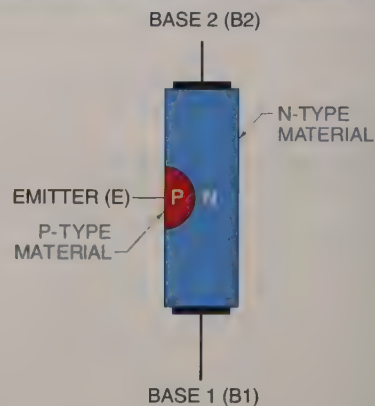

Figure 23-25. A unijunction transistor (UJT) consists of a bar of N-type material with a region of P-type material doped within the N-type material.
A *unijunction transistor (UJT)* is a three-electrode device that contains one PN junction consisting of a bar of N-type material with a region of P-type material doped within the N-type material. **See Figure 23-25.** The N-type material functions as the base and has two leads, base 1 (B1) and base 2 (B2). The lead extending from the P-type material is the emitter (E).